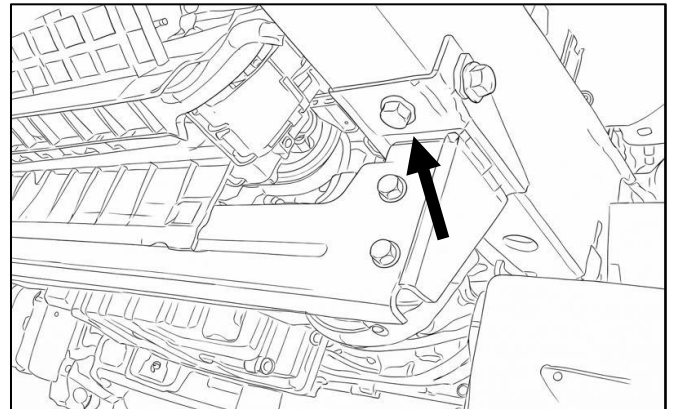

Figure 11: Black Crossbar Bolt to Remove
13. ☐ Remove the bottom screw that attaches the black crossbar to the underside of the frame rail. See Figure 11.